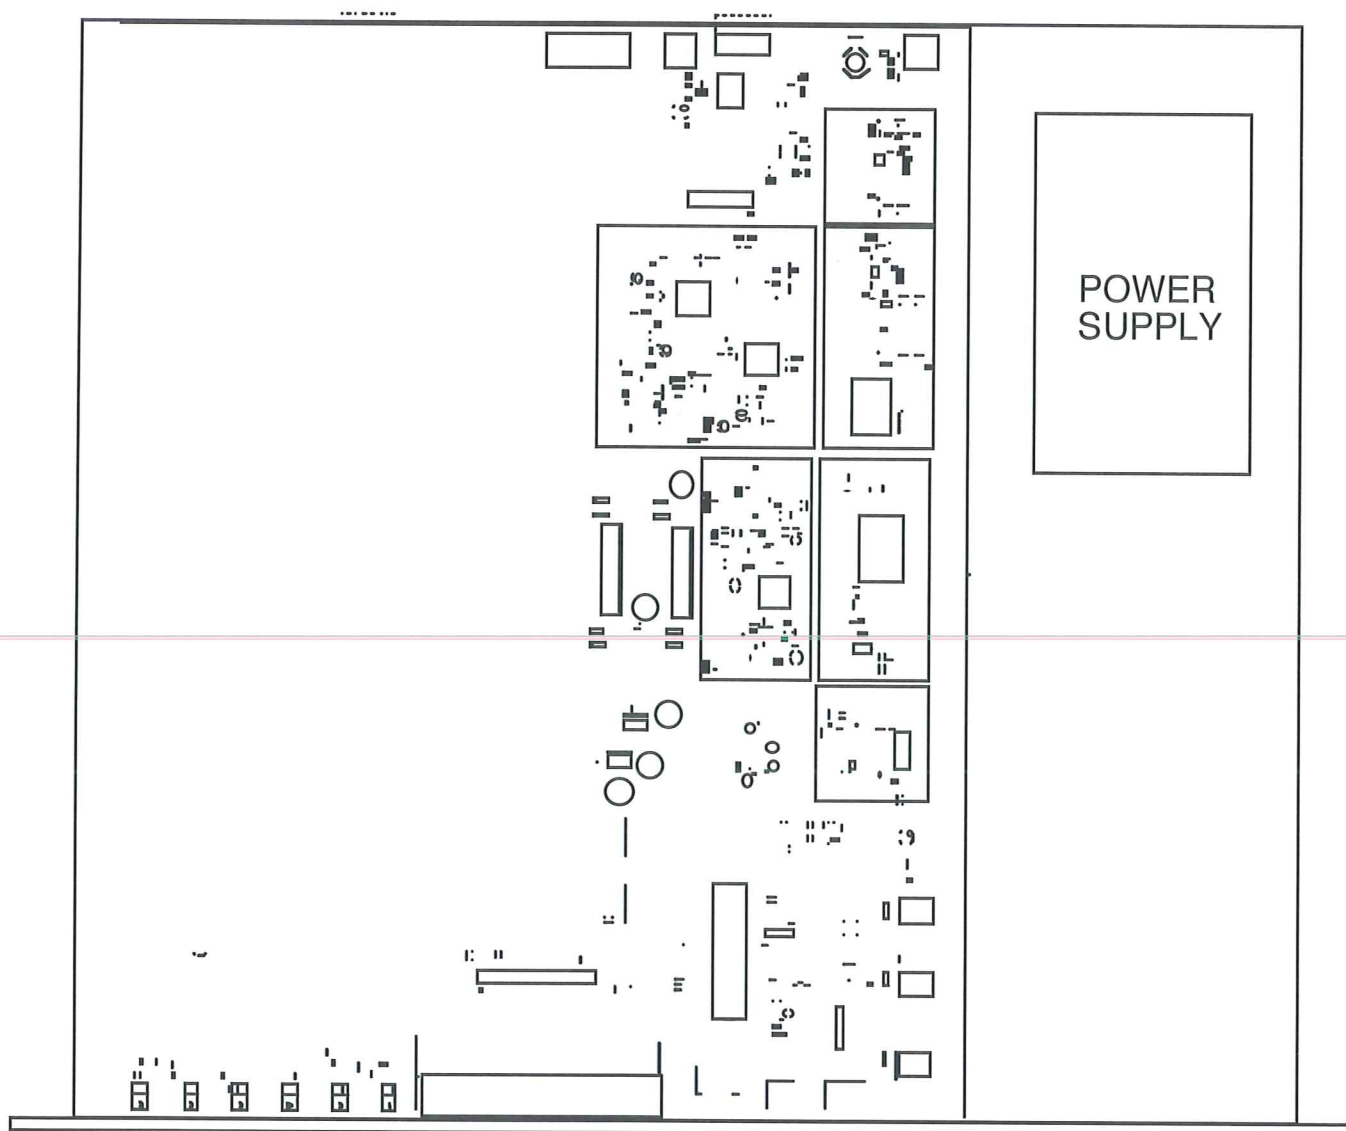

FIGURE 2.1 2016-0717 Mechanical Assembly
The 2016-0717 consists of one RF/Controller PCB housed in a 1 RU (1 3/4 inch high) by 16 inch deep chassis. A switching, ± 12 , +24, +5 VDC power supply provides power for the assemblies. The 2016-0717 can be secured to a rack using the 4 holes on the front panel. Figure 2.1 shows how the 2016-0717 is assembled.
7. Option -L only - To insert LNB +24 VDC on the RF center pin install 0.5A fast blo fuse in F1 and check that DS8 lights yellow (Figure 2.1).